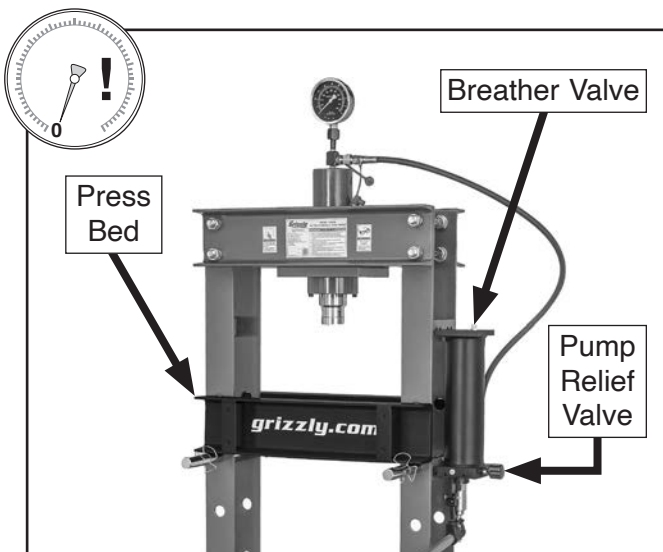

Figure 17. Location of pressure relief and press bed components.
1. Rotate pump relief valve and breather valve (see **Figure 17**) counterclockwise to release hydraulic system pressure.
2. Remove workpiece and V-blocks from press bed, if installed (see **Figure 17**).